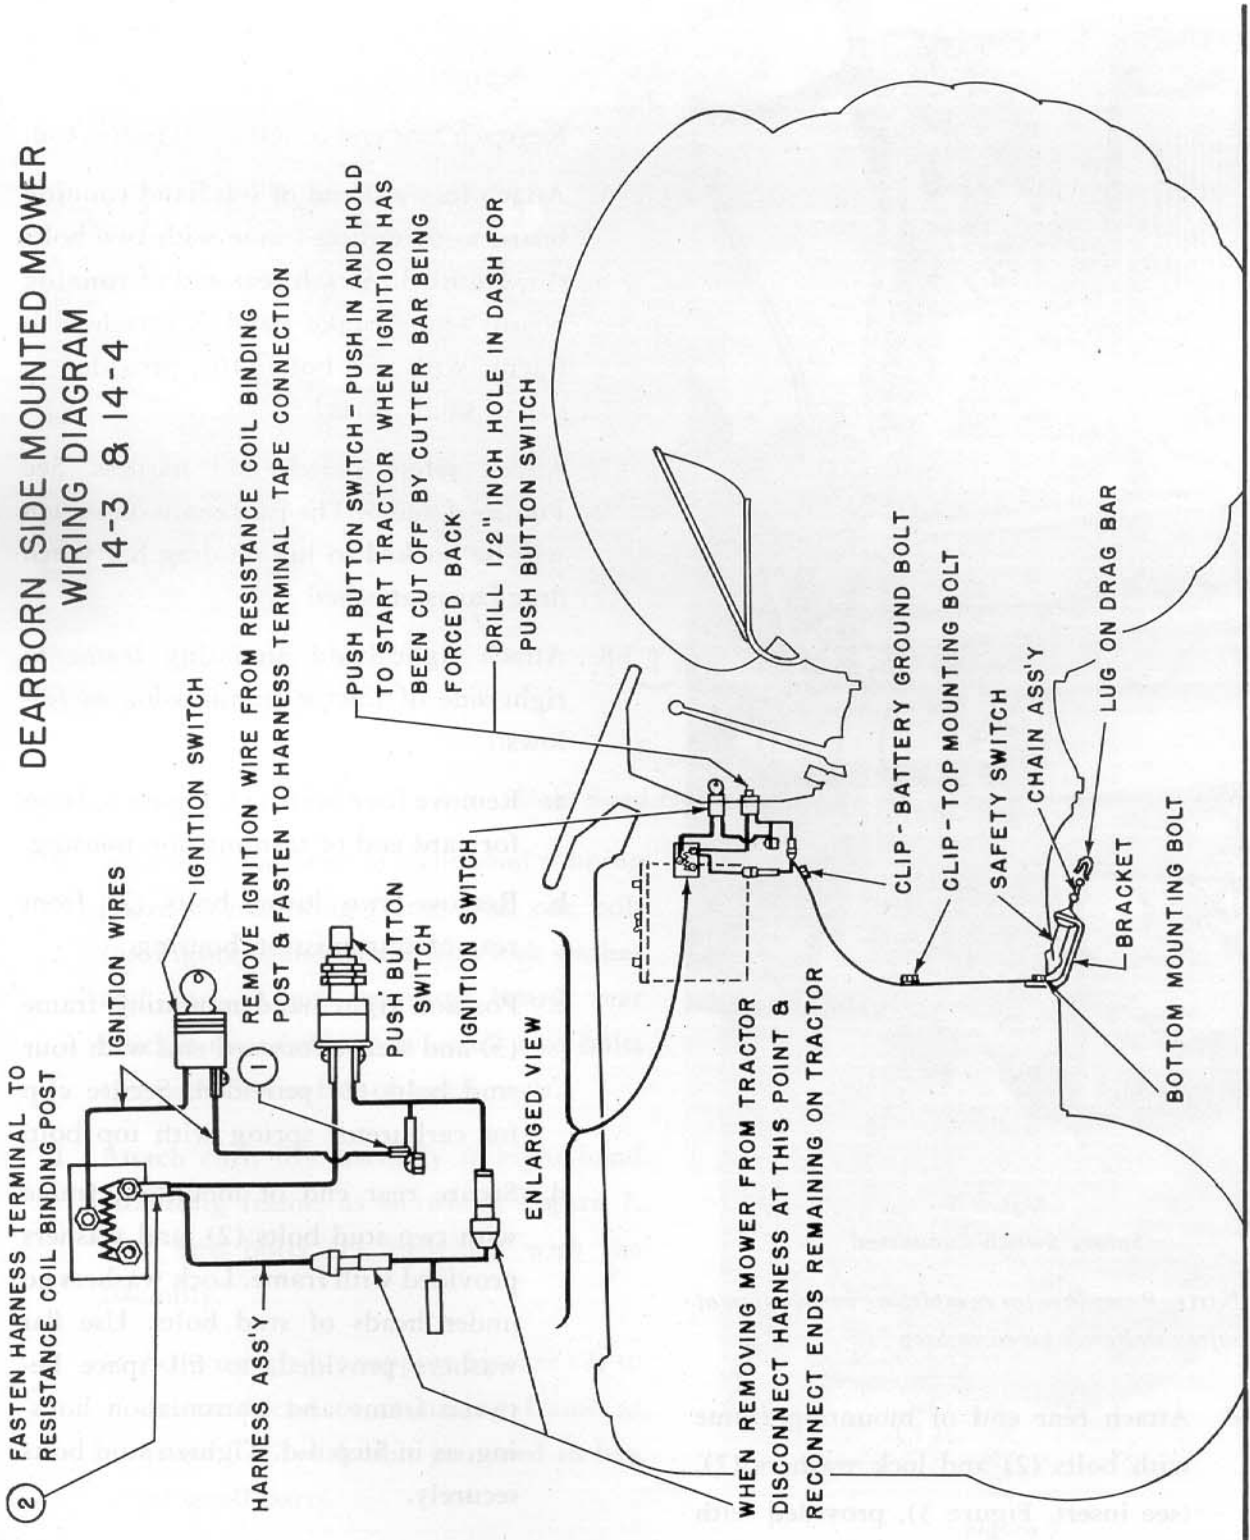

Figure 4
7. Attach safety switch and harness. See Figures 4 and 5. The pull chain on switch will be hooked to lug on drag bar when drag bar is attached.